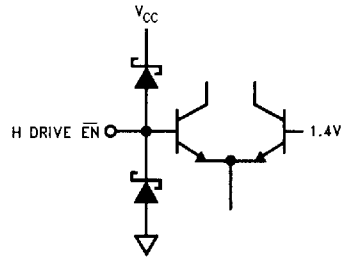

FIGURE 11
**Pin 15 - H DRIVE  $\bar{E}N$ :** A low logic level input enables H DRIVE OUT (pin 20). See *Figure 11* for the input schematic.